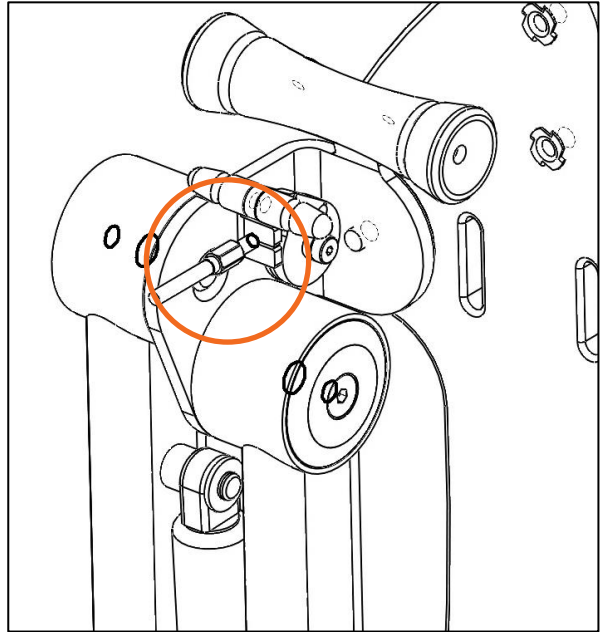

Figure 11
- Adjust the cable tension if the TILLIT does not move freely when handle is pulled or if the cable feels loose (*figure 11*)